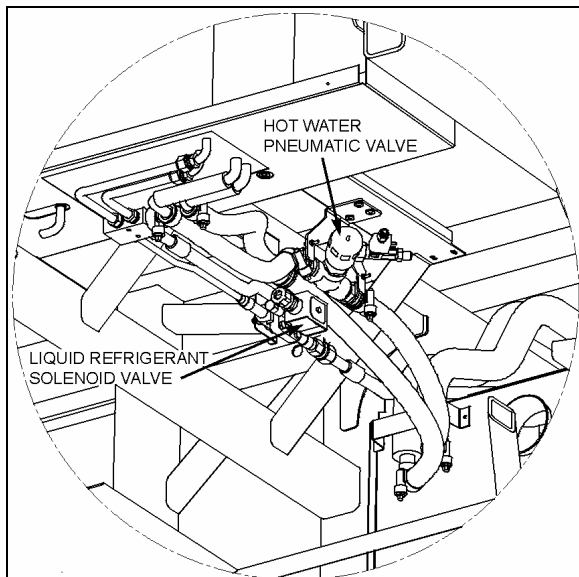

FIGURE 49: CEILING OF THE SPARE WHEEL COMPARTMENT 22324
2. Locate the normally open water pneumatic valve on the ceiling of the spare wheel compartment (Fig. 49), move the pilot-solenoid valve red tab to close the valve.